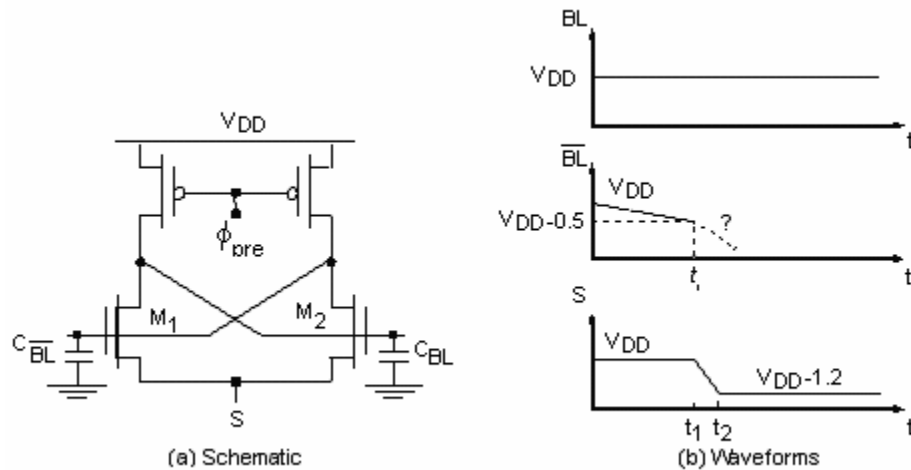

Figure 12.91 Dynamic sense amplifier.
11. [C, None, 12.3.2] A dynamic sense amplifier is shown in a Figure 12.91. The capacitance of each bit line is 1 pF, and average discharging current from the selected RAM cell equals 10 μ A. The waveform applied at point S is shown in b. Initially, S is high. When BL reaches $V_{DD} - 0.5$ V (at time $t = t_1$), S is lowered to $V_{DD} - 1.2$ V and reaches this value at time $t = t_2 = t_1 + 1$ nsec. Determine the sizes of the various transistors M_1 and M_2 so that a delay of less than 3 nsec is obtained. Delay is measured starting at t_1 and is defined as the time when BL reaches 2.1 V. $V_{DD} = 3.3$ V, $V_t = 0.75$ V, $k_n' = 19.6 \mu\text{A/V}^2$ (assume long channel). Complete the waveform for BL .